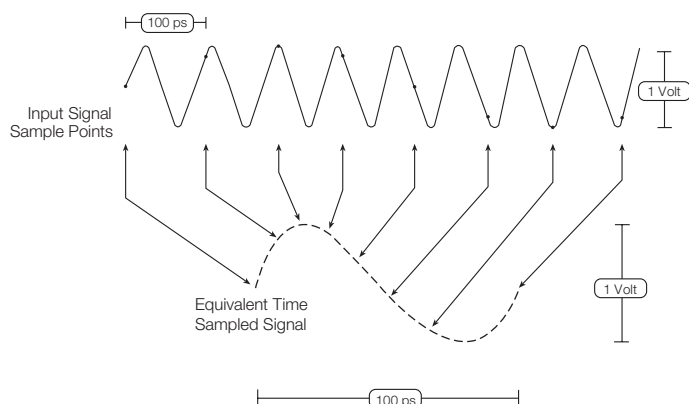

**Figure 24.** Peak detect mode enables the oscilloscope to capture extremely brief transient anomalies.
- **Peak Detect Mode:** The oscilloscope saves the minimum and maximum value sample points taken during two waveform intervals and uses these samples as the two corresponding waveform points. Digital oscilloscopes with peak detect mode run the ADC at a fast sample rate, even at very slow time base settings (slow time base settings translate into long waveform intervals) and are able to capture fast signal changes that would occur between the waveform points if in sample mode, as shown in Figure 23. Peak detect mode is particularly useful for seeing narrow pulses spaced far apart in time, as demonstrated in Figure 24.